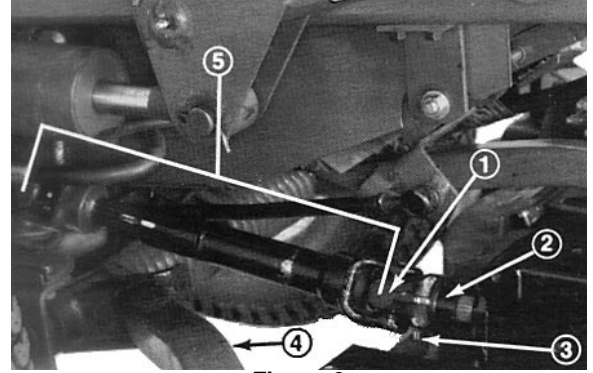

Figure 9
3. Drive the roll pin out of the yoke and input shaft of the gear box (Fig. 9). Also, loosen the capscrews and locknuts. Slide the yoke off the input shaft. If the traction unit will be used without the cutting unit, drive the roll pin out of the yoke at the PTO pivot shaft and remove the entire universal shaft from the traction unit.
5. Have a helper push down on the right push arm while you remove the capscrews, flatwashers, lockwashers and nuts securing ball joint mount to the castor arm on the cutting unit (Fig. 9). Now the helper can carefully allow push arm to move upward, which will gradually release the spring load.